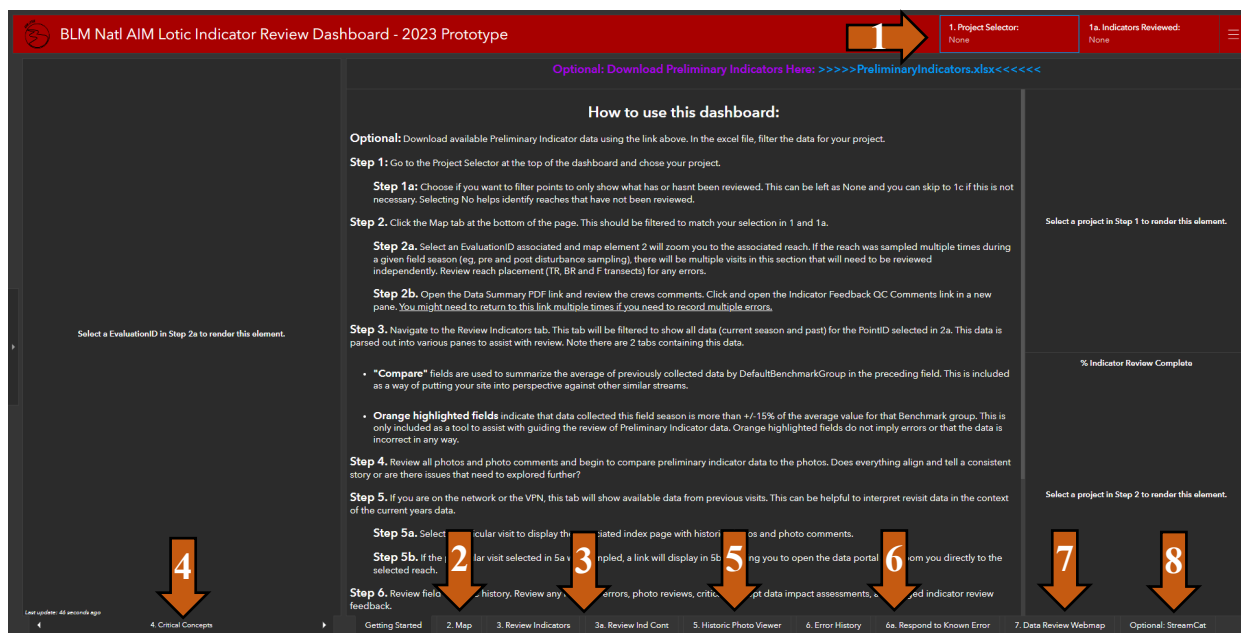

Figure 5. Screenshot of the Indicator Review Dashboard
- Prior to reviewing data from the data collector's first trip watch the QC webinar which covers detailed instructions on how to use the Indicator Review Dashboard. Only general instructions are provided below. The Indicator Review Dashboard has the following key components (Figure 5):
- Select your project from the Project Selector (1) at the top of the page. Next, using the Indicators Reviewed Selector (1a) select “No”. This will filter out any reaches that you have already reviewed Indicators for.
- Open the Map tab (Figure 5, Label #2). Select the first reach from the list on the left (2a).
- E. Review the reach's placement on the map (2) against satellite imagery and orient yourself to the area. If the reach has been previously evaluated, compare both reaches top of reach, bottom of reach and F transect placement.
- H. Open the first Review Indicators tab (Figure 5, Label #3). Indicators are organized and arranged into panels allowing the user to see and compare multiple indicators at the same time.
- I. Review the photos (Figure 5, Label #4) to get a feel for the nature of each reach. For example, is the reach high versus low gradient, confined versus unconfined, or highly impacted by management or unaltered? All photos are categorized into tabs. Click the tabs name to select your next tab from a list or use the arrows to navigate.
- L. If the reach has been previously evaluated, open the Historic Photo Viewer tab (Figure 5, Label #5), and select the visit from the list on the left (5a). Once selected, all photos and photo comments will be displayed in the window on the right.
- M. Next open the Error History tab (Figure 5, Label #6) and review all “Transactional Dialog” of the QC information related to the selected reach. Select an element in this pane and then review the information displayed in the “Transactional Dialog” box.
- O. OPTIONAL: If you wish to dive deeper into the current field seasons data to determine why a particular indicator is being computed a certain way, navigate to the Data Review Webmap tab (Figure 5, Label #7). This tab will automatically be zoomed to the reach you have selected. Click on the PointID your interested in using the ‘Point Selector List’ in
- P. OPTIONAL: Curious about other factors in your reaches watershed that could be impacting its data? Open the Optional: StreamCat tab (Figure 5, Label #8) to see what information EPA StreamCat has for your reach’s catchment and watershed.
- Q. To record the outcomes of the above review, open the QC Comments form using the Dashboard (Figure 5, Label #2) – 2b. Both positive and negative outcomes must be recorded. If no errors were found, mark that everything looks good and submit. Identified errors should be recorded individually to ensure that all data decisions are properly tracked and implemented. For each error choose the method the issue is most associated to, mark whether to flag, omit or edit the data, and provide a comment and reasoning. If follow up is needed to resolve the error still record it as an error, use the “Flag” category, and make clear comments. This is the only location where Indicator Review feedback can be recorded. All other QC Comments links are configured for recording and tracking Field Data QC issues. Examples:
- I. Review photos (Figure 5, Label #4) and reach coordinates displayed on the dashboard map (Figure 5, Label #2) to determine if sampling conditions and reach placement were similar or if major changes occurred at a reach.
- a. Historic photos can be found using the Historic Photo Viewer tab (Figure 5, Label #5).
- II. Quickly review field comments from the data collectors (Figure 5, Label #2) – 2b.
- III. Review the “Transactional Dialog” for any field errors (Figure 5, Label #6). Follow details in step M above.
- IV. Review Indicators (Figure 5, Label #3) and compare covariate values to the photos and through time. Any large differences in covariates are particularly concerning because things such as stream slope usually do not change appreciably among years.
- VII. To record the outcomes of the above review, open the QC Comments form using the Dashboard (Figure 5, Label #2) – 2b. Both positive and negative outcomes must be recorded. If no errors were found, mark that everything looks good and submit. Identified errors should be recorded individually to ensure that all data decisions are properly tracked and implemented. For each error choose the method the issue is most associated to, mark whether to flag, omit or edit the data, and provide a comment and reasoning. If follow up is needed to resolve the error still record it as an error, use the “Flag” category, and make clear comments. Examples: